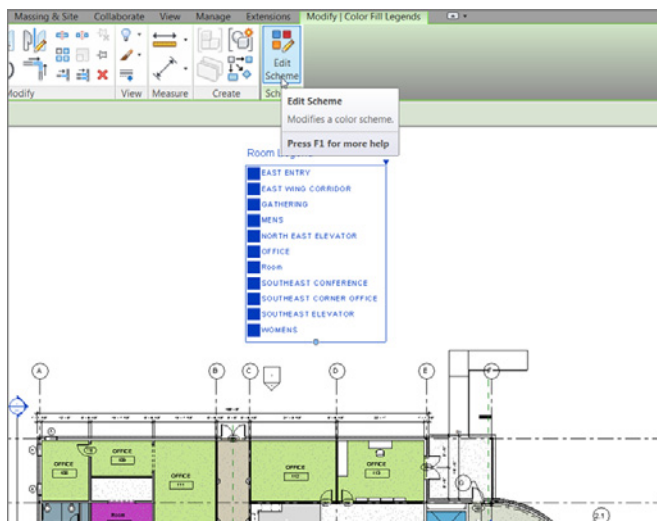

FIGURE 15.20: Proceeding to edit the scheme
11. Click the Edit Scheme button on the Modify | Color Fill Legends tab, as shown in Figure 15.20.